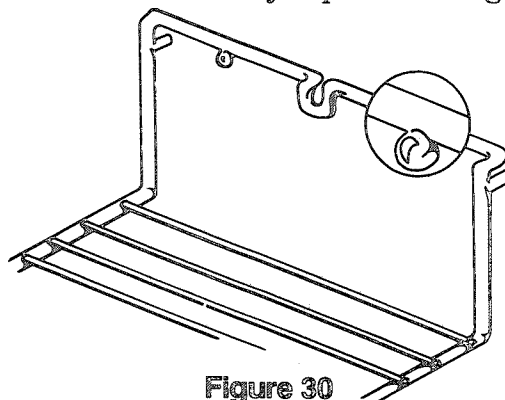

Figure 30
- Lock into place by pushing rack to left. Be sure round knobs are securely in place. See Figure 30.